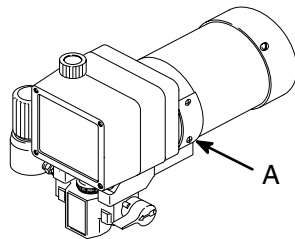

Fig. 14
2. Remove both inspection covers (A) and their gaskets. See Fig. 14.